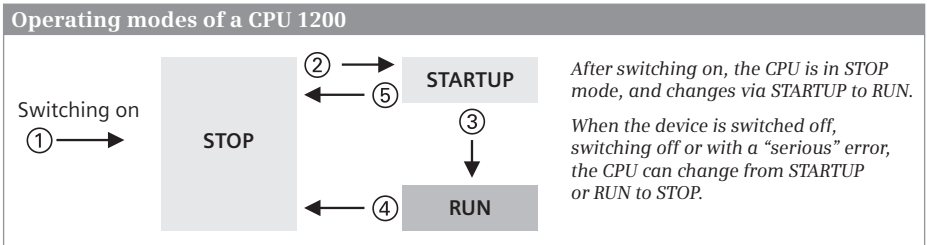

Fig. 5.1 Operating modes of a CPU 1200
Fig. 5.1 illustrates the operating mode transitions: ① After switching on, the CPU is in the STOP mode. If the corresponding conditions are fulfilled, the CPU changes to the STARTUP mode ② and subsequently to the RUN mode ③. If a “serious” error occurs during execution in STARTUP or RUN, or if the CPU is stopped by an operation on the programming device, the CPU returns to the STOP mode ④ ⑤.